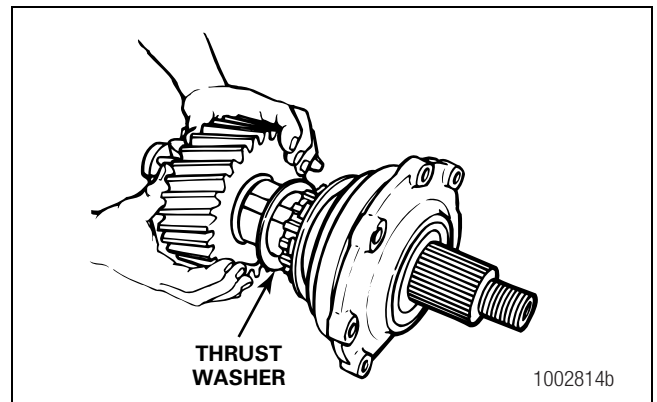

Figure 5.74
9. Place the thrust washer into the pilot bore on the end of the helical drive gear. The oil groove in the thrust washer must face the input shaft flange. Install the helical drive gear and the thrust washer onto the input shaft so that the thrust washer is toward the input bearing cage. Figure 5.74.